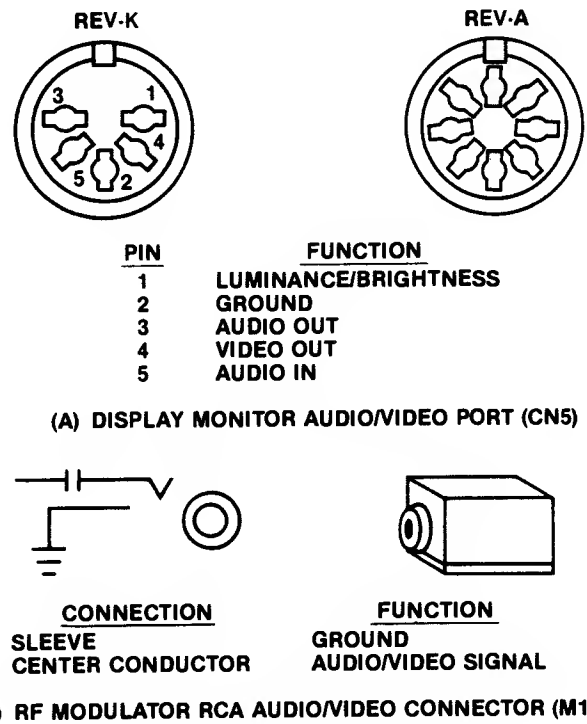

Fig. 2-25. The audio interface connectors.
Audio signals are either generated internally or enter the audio/video port connector shown in Fig. 2-25 (A). The sound signal exits your computer by
either the display monitor connection of Fig. 2-25 (A) or via the RF modulator jack in Fig. 2-25 (B).